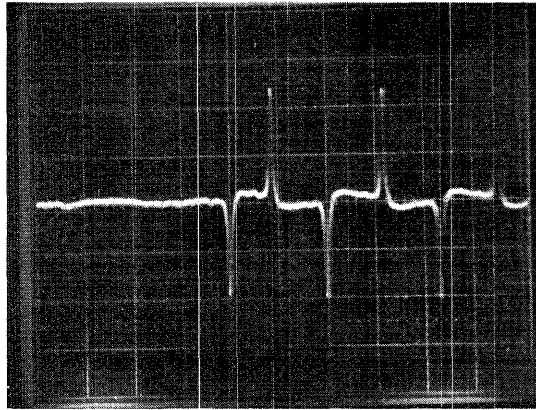

FIGURE 10. INDEX TIMING
- g. Observe the timing between the start of the sweep and the first data pulse. This should be $200 \pm 100 \mu\text{sec}$. If the timing is not within tolerance, continue on with the adjustment. Reference figure 10.